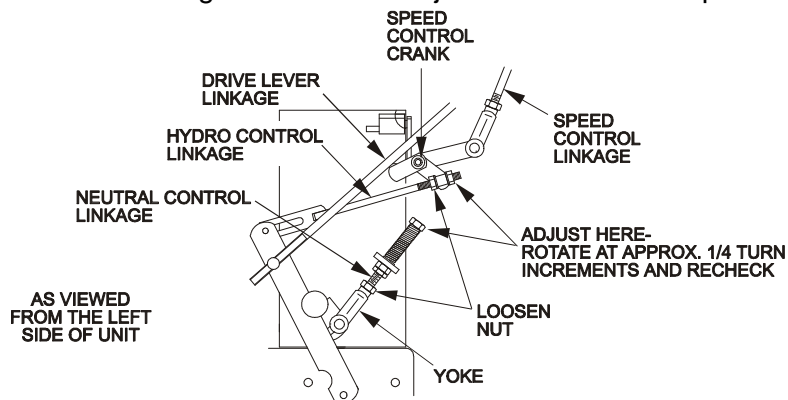
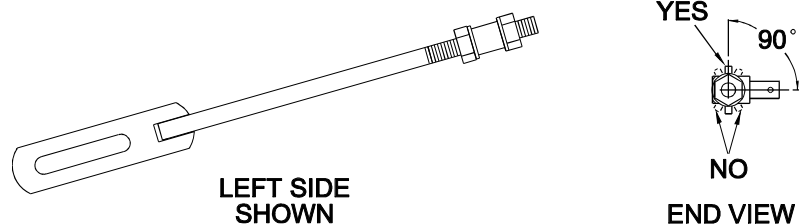

FIGURE 13
FIGURE 14
4. Loosen the nut against the neutral control linkage yoke as shown in Figure 13.
2. Loosen the front nut on **left** hydro control linkage as shown in Figure 13. Turn the rear control linkage adjusting nut counter-clockwise until wheel rotates forward. Turn the rear nut of left control link clockwise 1/4 of a turn at a time, stopping to move the speed control forward and back to neutral, until left wheel stops rotating forward. Turn the rear nut an additional 1/2 turn and tighten the front nut making sure not to put a bind on the linkage. Make sure flat part of linkage is perpendicular to pin part of swivel. See Figure 14.